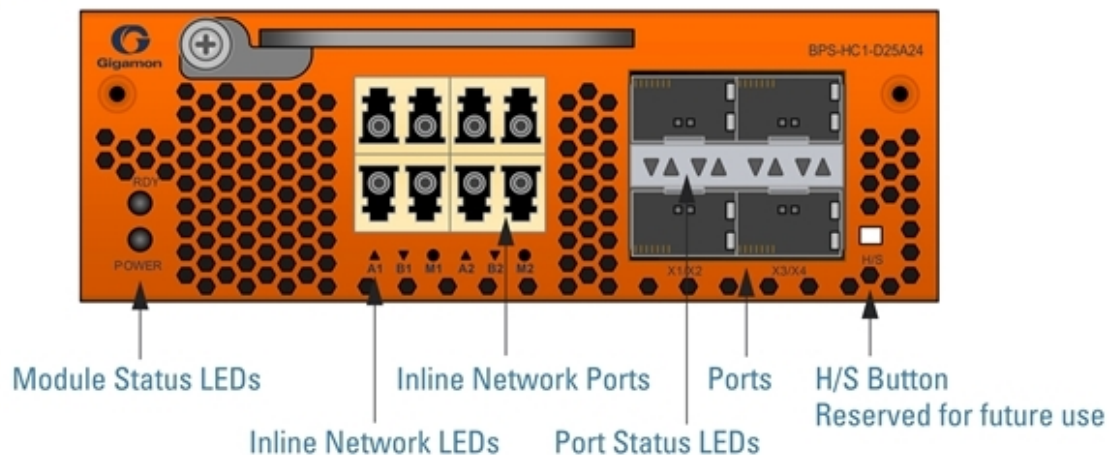

Figure 6 Bypass Combo Module BPS-HC1-D25A24
- Bypass Combo Module with two SX/SR (50/125 μ m multimode) inline network port pairs and four regular SFP+ port cages (BPS-HCI-D25A24) (Figure 6 Bypass Combo Module BPS-HCI-D25A24)